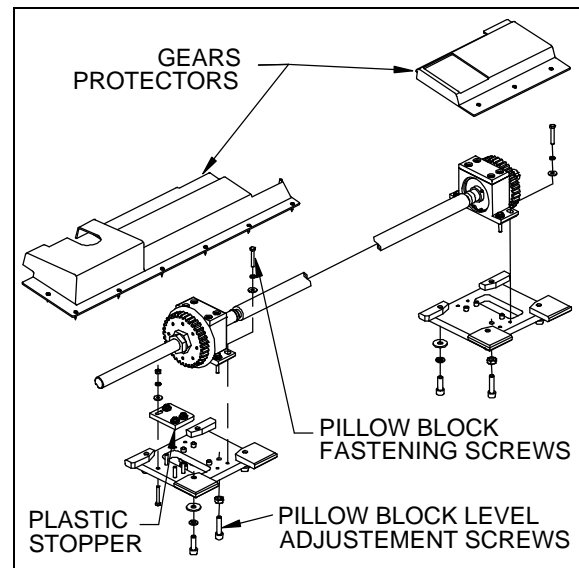
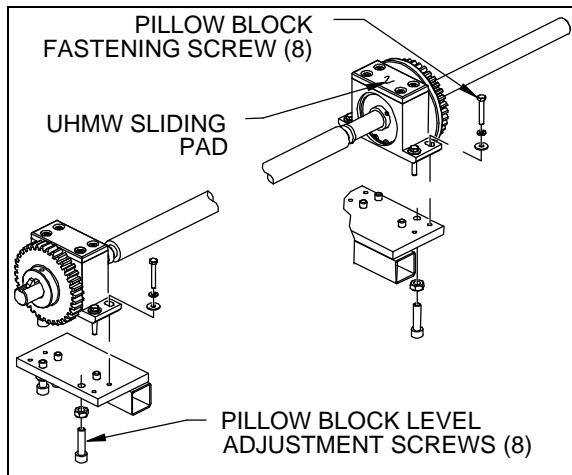

FIGURE 27 : FRONT SLIDE-OUT SLIDING PAD LEVELLING
FIGURE 28 : REAR SLIDE-OUT SLIDING PAD LEVELLING
There is a UHMW plastic stopper used to block any axial movement of the front slide-out lower shaft (figure 27). This stopper must be adjusted 1/32" away from the pinion.
3. Check and make sure that the UHMW sliding pad and the vehicle frame structure are parallel and within a distance of 22.2mm (7/8") (figure 48). If not, an adjustment is needed. To adjust the rear slide-out UHMW sliding pads and the front slide-out motor side UHMW sliding pad, use the pillow block adjustment screws located under the fixation plates (figure 27 and figure 28). To adjust the front slide-out UHMW sliding pad located on the driver side, add or remove shims under the pillow block (figure 27).
4. Make sure both pillow blocks are at the same distance from the structure and tighten the pillow block fastening screws and the adjustment screw jam nut (figure 27 and figure 28).